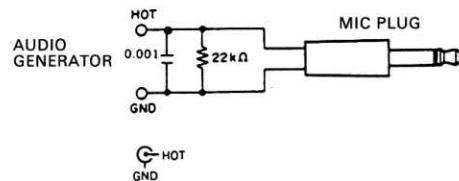

Figure 4-14
- d) Insert a micro-plug configured as shown in Figure 4-14 into the EXT MIC jack. Then input a 1 kHz, 60 mV sine wave from the AG.
- c) Insert a micro-plug configured as shown in Figure 4-14 into the EXT MIC jack. Transmit the AG output at 0 mV.
- d) Insert a micro-plug configured as shown in Figure 4-14 into the EXT MIC jack. Transmit the AG output at 0 mV.